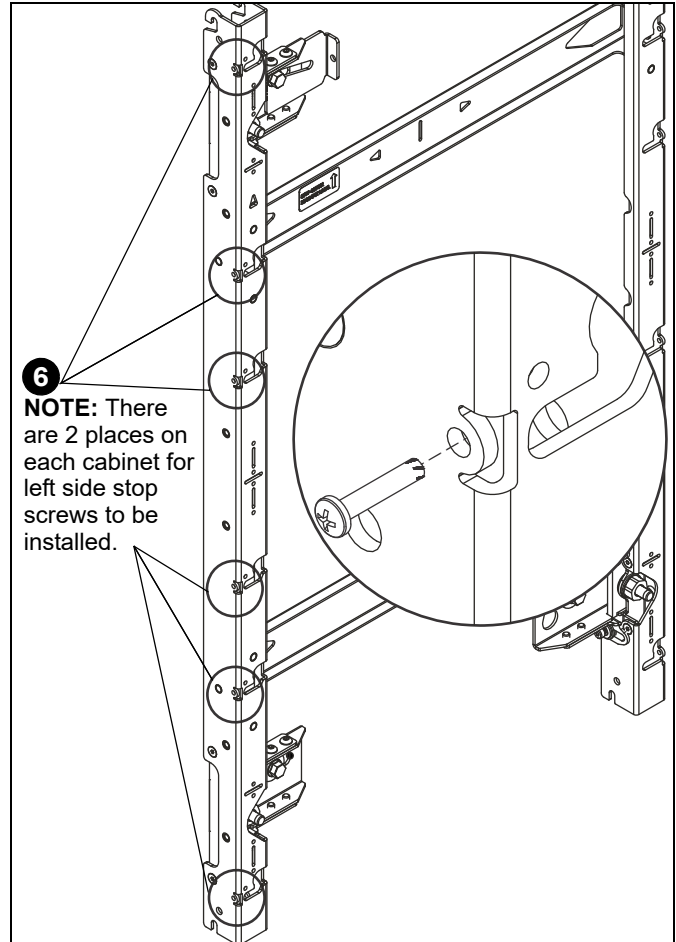

Figure 19
6. Insert one 10-24 x 1" self-tapping screw (C) into the left side of the mount. (See Figure 19)